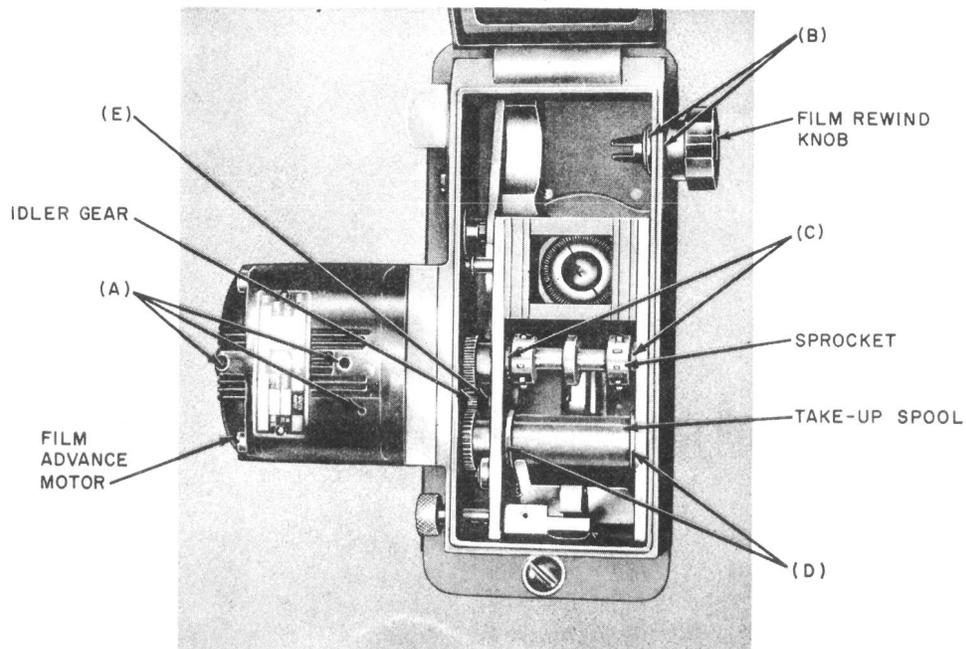

Fig. 2—KS-16007 Camera—Lubrication Points
- (a) **Motor:** Fig. 2, (A)—The film advance motor of the KS-16007 camera shall be lubricated annually with one drop of KS-7470 oil in each of the three oil holes. The North American Philips motor does not require lubrication. Figure 3 shows the two motors used on the KS-16007 camera.
- (b) **Film Rewind Knob Bearing:** Fig. 2, (B)—The bearing of the film rewind knob shall be lubricated annually with one drop of KS-7470 oil at each end of the bearing.
- (c) **Sprocket Bearings:** Fig. 2, (C)—The sprocket bearings shall be lubricated annually with one drop of KS-7470 oil at each bearing.
- (d) **Take-Up Spool Bearings:** Fig. 2, (D)—The take-up spool bearings shall be lubricated annually with one drop of KS-7470 oil at each bearing.
- (e) **Idler Gear Bearing:** Fig. 2, (E)—The idler gear bearing shall be lubricated annually with one drop of KS-7470 oil.